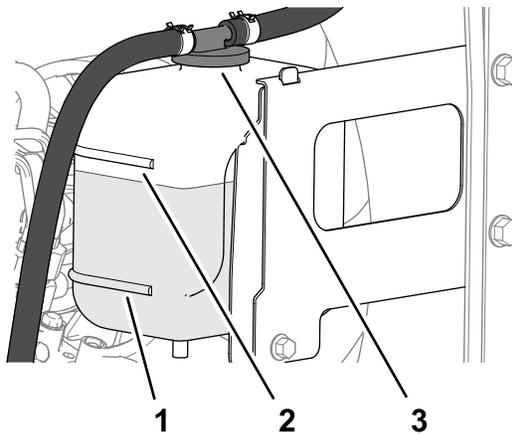

Figure 104
3. Check the level of coolant in the expansion tank (Figure 104).